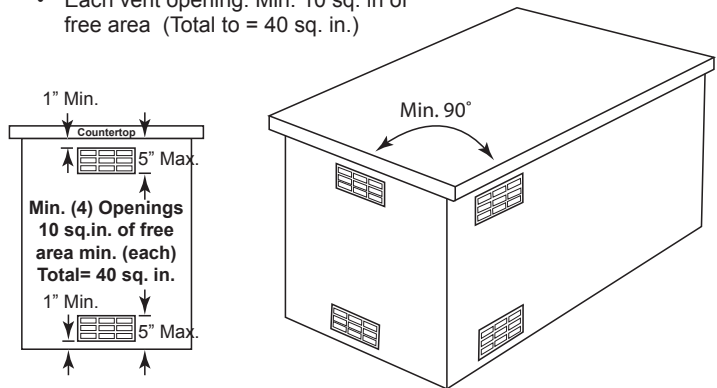

Figure 9
- Two openings must be in the side walls of the enclosure, at the top and spaced a minimum of 90° from each other. The openings must begin 1" or less below the countertop edge and end no more than 5" below the countertop edge. See Figure 9.
- **The openings must remain unobstructed:** The clearance between the openings and any items outside of the enclosure is a minimum of 6". The clearance between the openings and any items within the enclosure is a minimum of 2". This provides free flowing air inside and outside the enclosure to keep the island cool during operation of the grill. See Figure 9.